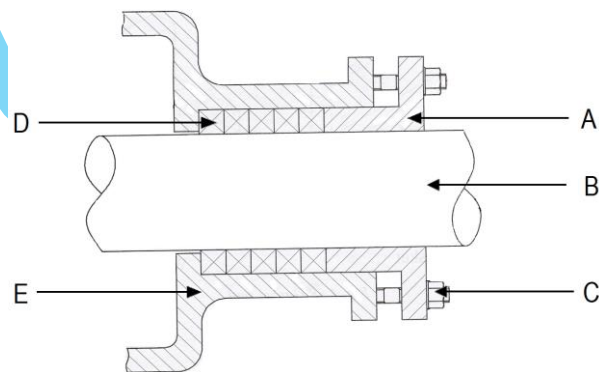

FIGURE 2
6.1 FIGURE 2 below shows a diagram of a stuffing box.
Name the parts labelled (A–E) in FIGURE 2. Write only the answer next to the letter (A–E) in the ANSWER BOOK